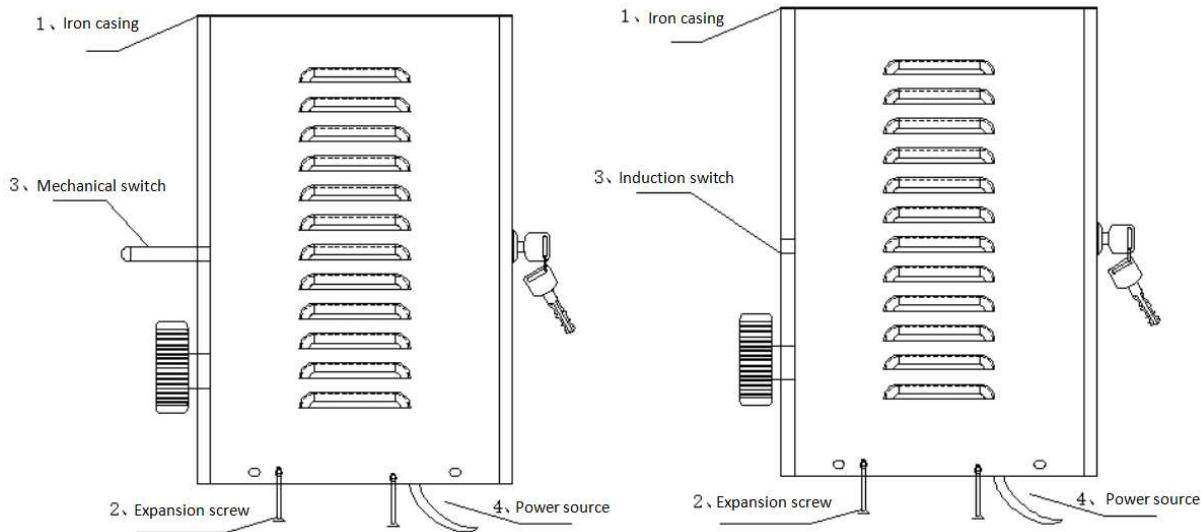
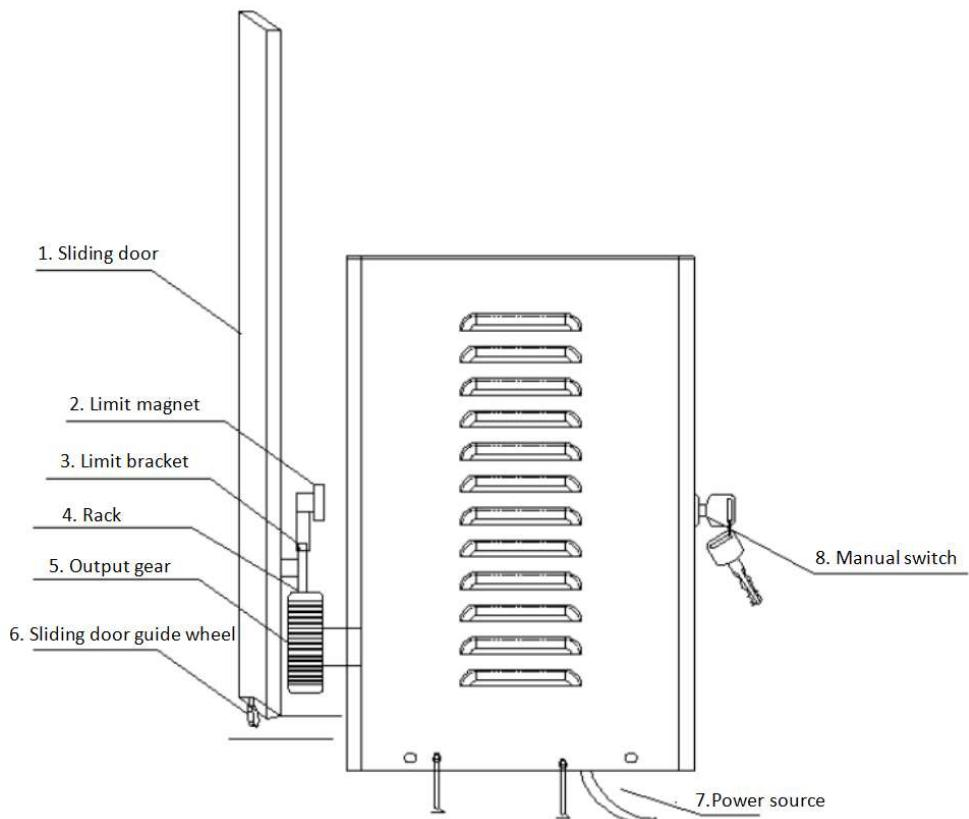
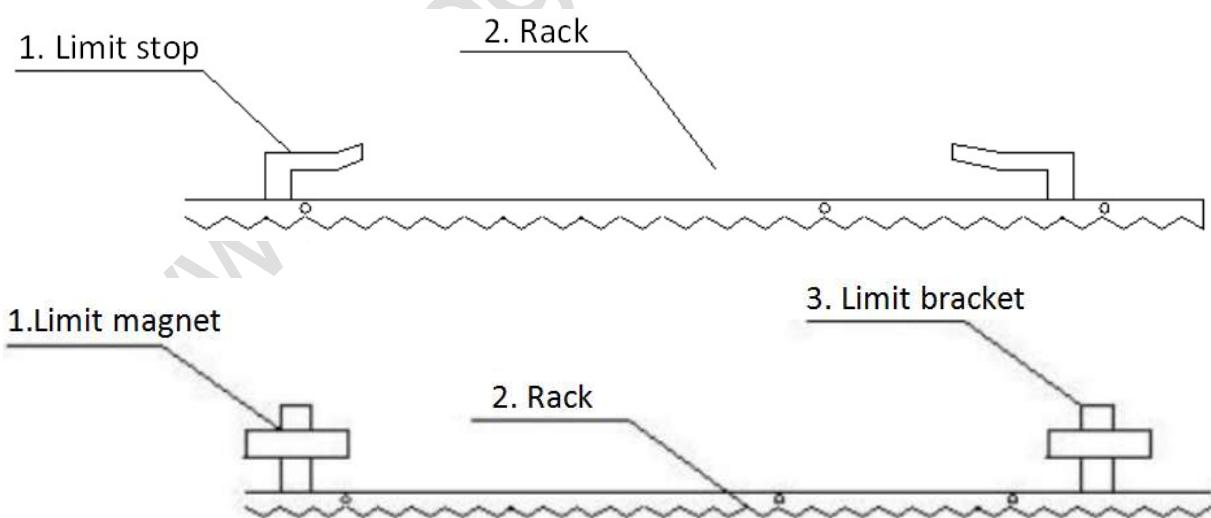

Figure 3
Figure 4
Figure 5
The basic installation of the door opener is shown in Figure 3, there are two limits, you can choose. The position relationship between the door opener and the sliding door is shown in Figure 4. After the cement is solidified, place the door opener on the installation base plate. The installation base plate should be horizontal and adjusted to the appropriate position according to the direction shown in Figure 4. Then tighten the nut on the installation foot to make the door opener firmly connected to the base.
- (1) In the position where the output gear and rack can be reliably meshed, the cylindrical nut is welded in the appropriate position at the lower part of the translation door and then the rack is bolted on the round bolt nut.
- (2) Adjust the position of the rack to ensure the engagement between the rack and the gear gap, and the engagement gap should be maintained at 1 mm.
- (3) Install the magnetic switch as shown in Figure 4 and Figure 5. The main engine is equipped with a magnetic induction (or spring) switch. Control the correct position for opening and closing doors. Use the special key to open the clutch control compartment, and then use the clutch handle to unload the clutch of the door opener (turn the handle straight to 90 degrees); Push the sliding door to the appropriate limit position at both ends manually, and preliminarily fix the assembled translation door limiter on the rack at both ends; (As shown in Figure 5) Please refer to the circuit board manual for details of the circuit installation and debugging.